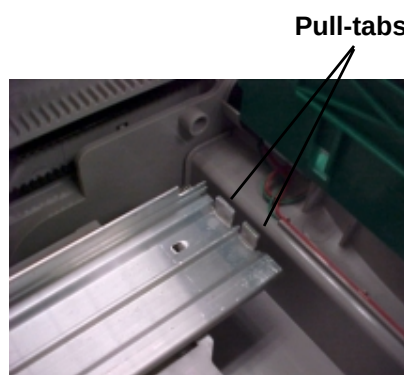

Figure 6
6. To access the adjustment scales in the guide-holes, select either the left or right guide-rail to begin. Grasp the pull-tab at the end of the rail, shown in Figure 6 and pull forward while lifting up slightly. It is important to lift up the rail while pulling it forward in order to clear the rail stop near the front of the cassette. The guide rail should slide forward until it touches the front of the cassette (see Figure 7). The guide rail is under spring pressure, so you will need to apply constant pressure to keep the rail in this position during the adjustment.